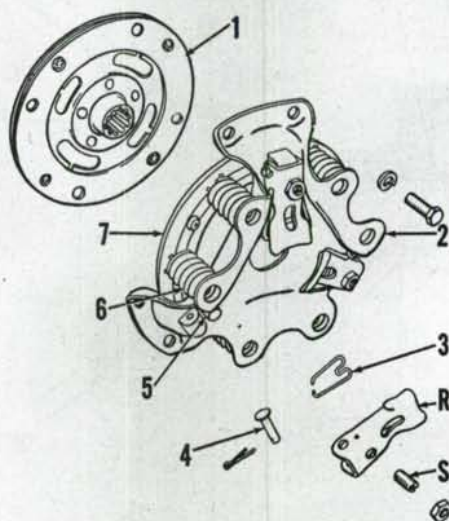

Fig. AC74—Model G clutch is a single plate Rockford 6 1/2 RM unit.
The long hub of the lined plate (1—Fig. AC74) should be installed away from the flywheel. Using 3 pieces of 5/16 inch key stock in lieu of the lined plate, install the unit to the flywheel and check the release lever height. Adjust release levers, by means of the screws (S) in the levers, until a measurement of $1\frac{13}{16} \pm 0.015$ is obtained from friction face of flywheel to release bearing contacting surface of each lever.